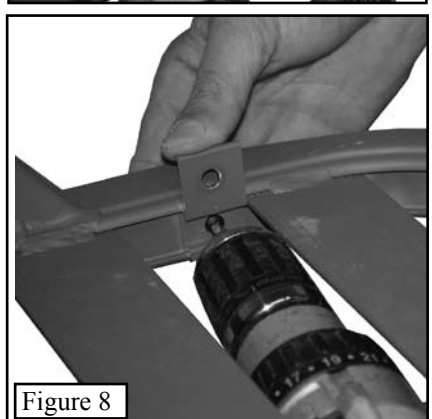

Figure 8
Step 2. Secure the bracket with one self tapping screw as shown in **Figure 8**. Repeat for the other side.